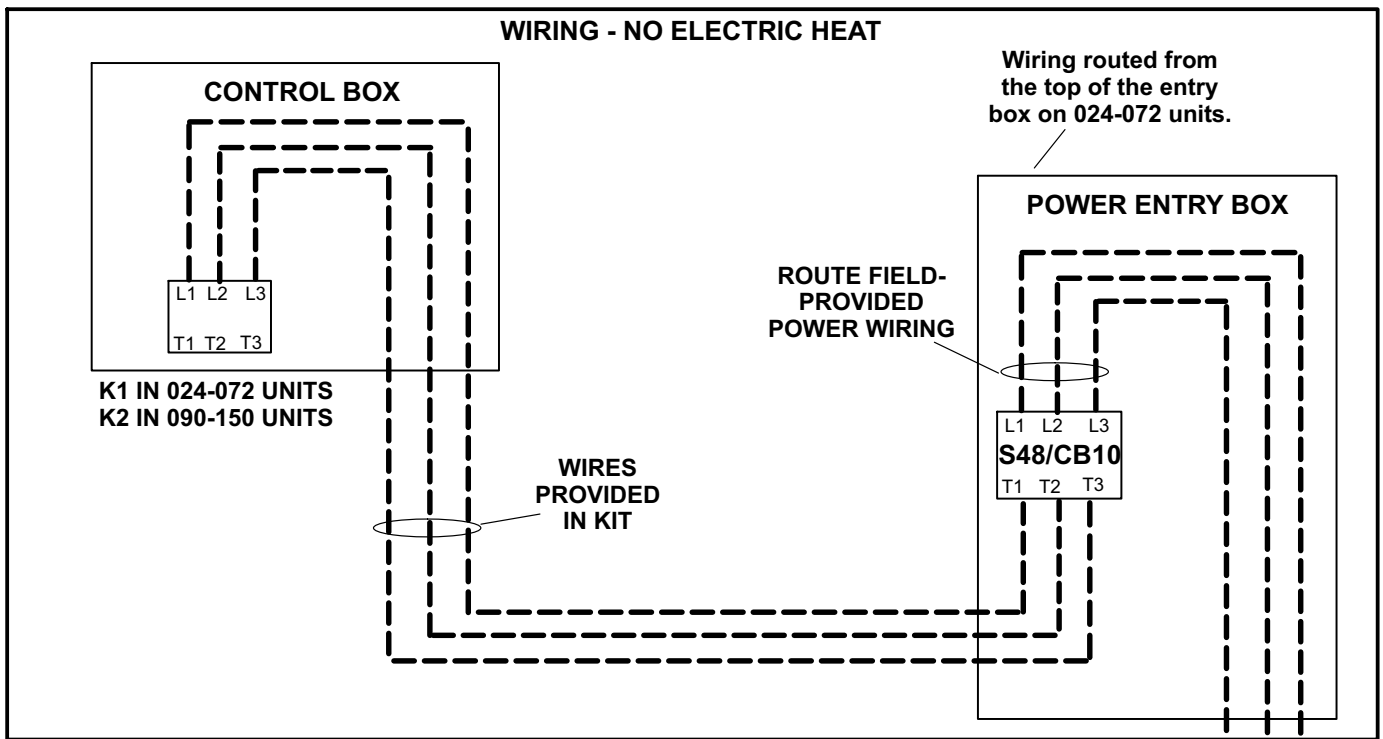
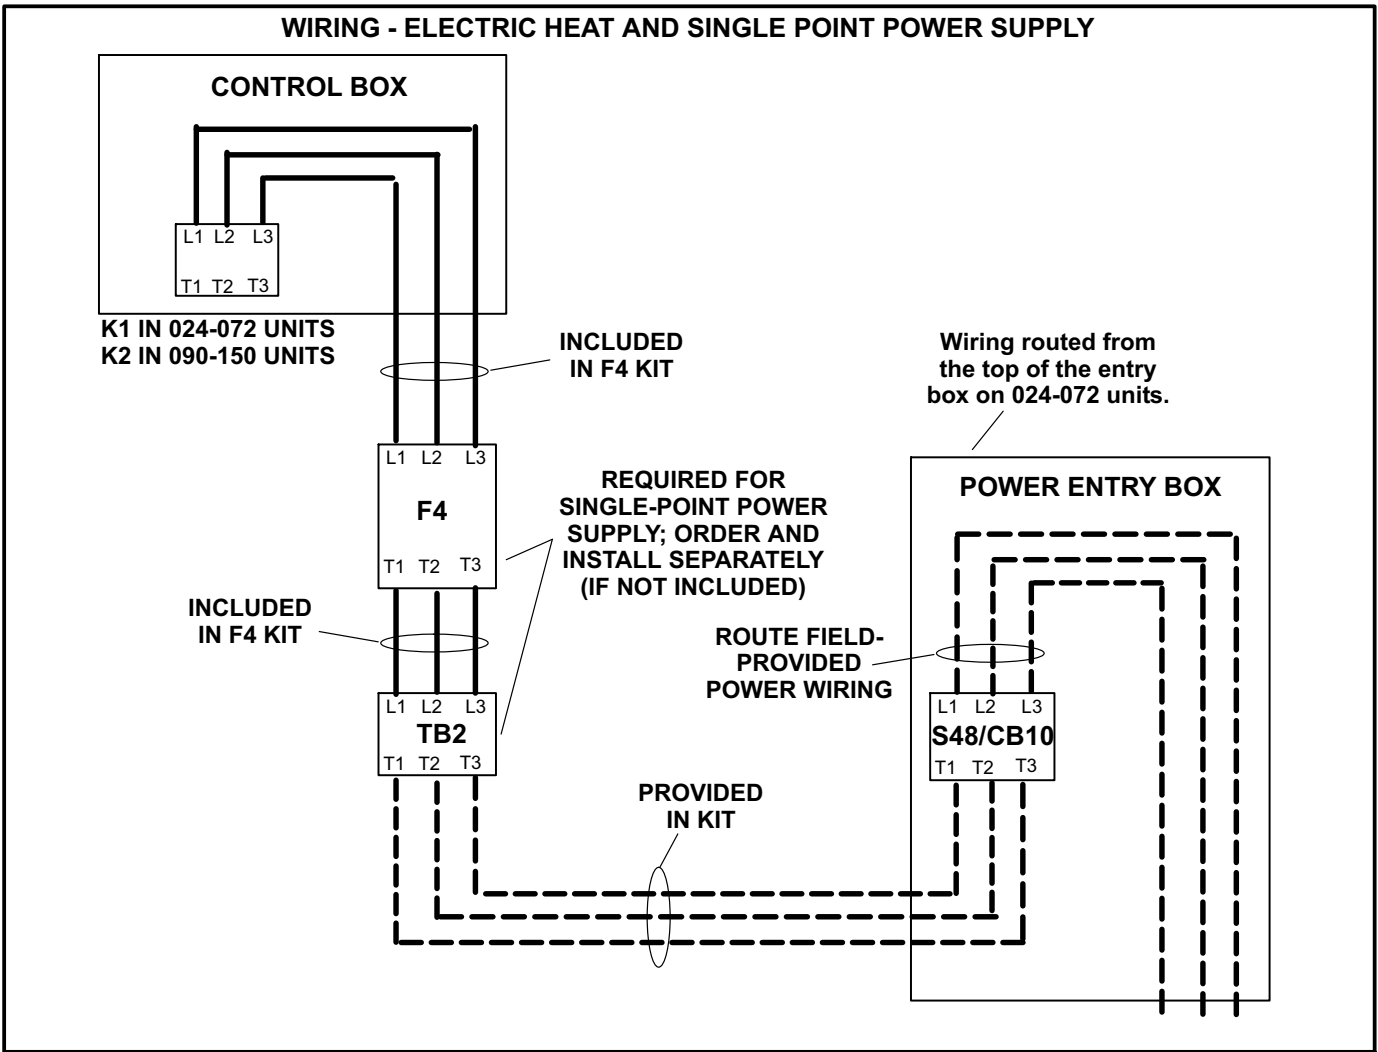

FIGURE 5
FIGURE 6
- 2- Make wire connections as shown in figure 5 when no electric heat is installed. Make wire connections as shown in figure 6 when electric heat is installed with single point power supply. Refer to the component arrangement sticker on the inside of the compressor access panel for the location of K1, K2, and K3.